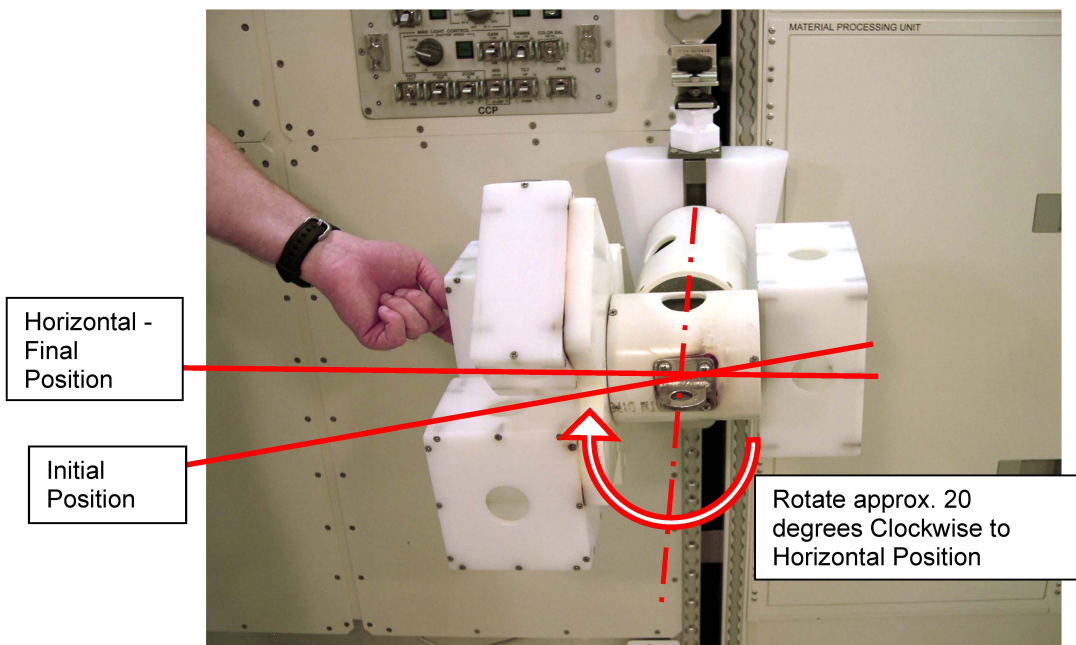

Figure 3: Rotate Mast Axis (Yaw) to Horizontal
5. Rotate the camera and light around Mast Axis (Camera Yaw) approximately 20 degrees until aligned horizontally as shown in Figure 3.